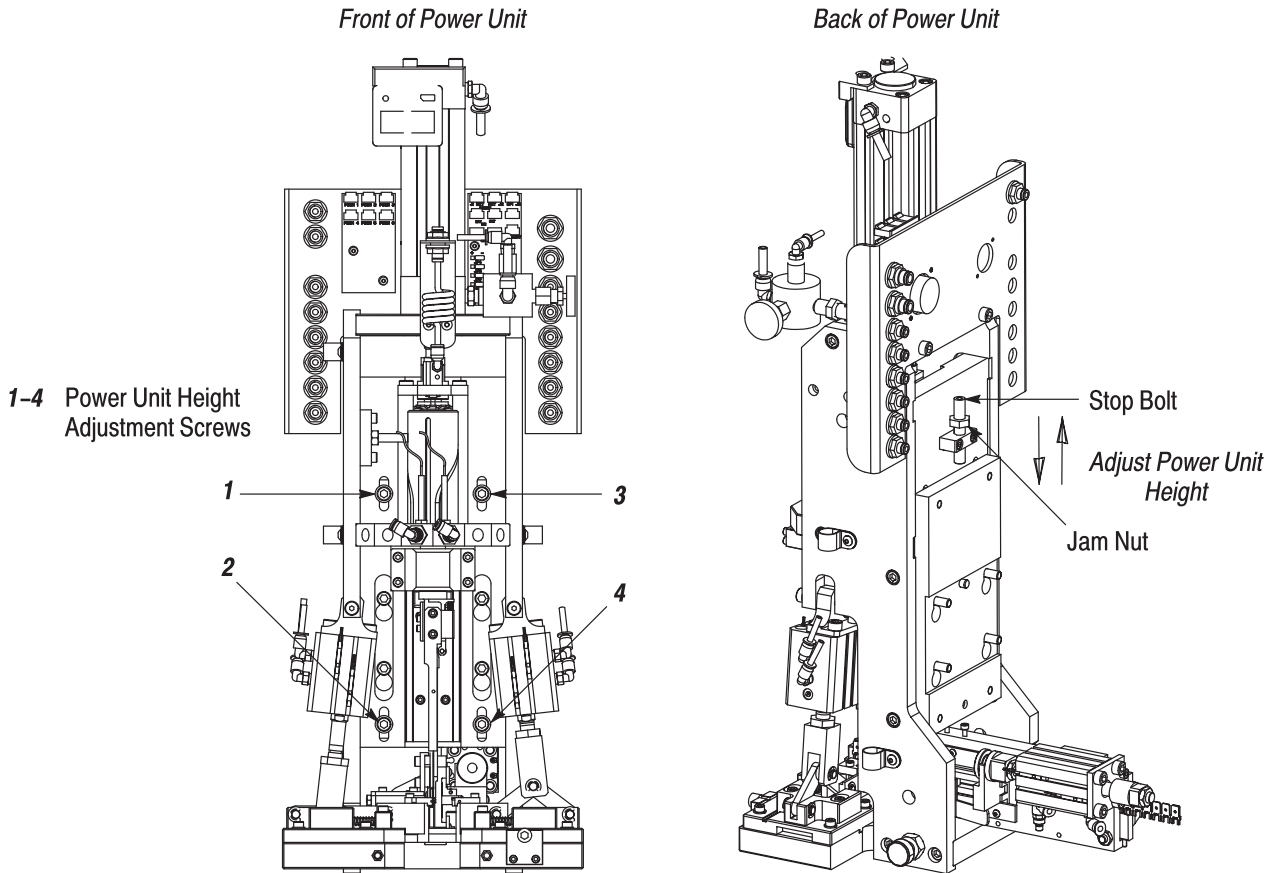

Figure 15
**5.11. Power Unit Height (Terminal Insertion Depth) Adjustment** (Refer to Figure 15)